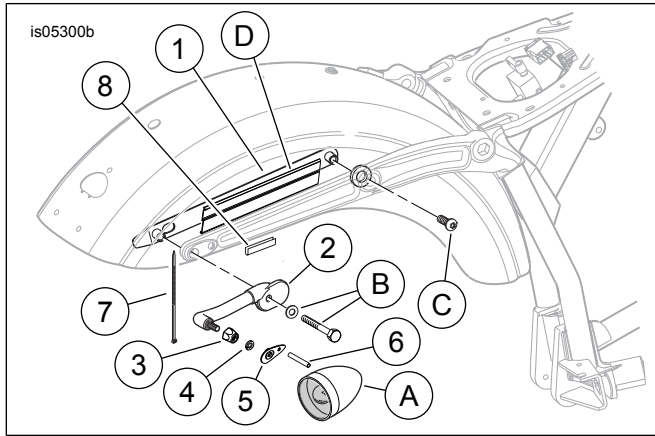

Figure 4. Service Parts, Dyna Rear Turn Signal Relocation Kit
See Figure 4 and Table 1.
1. **For Wide Tire Installations:** See Figure 4. Cut two pieces of shrink tubing (6) into two equal length pieces. **For All Other Models:** See Figure 4. Cut one piece of shrink tubing (6) into two equal length pieces.